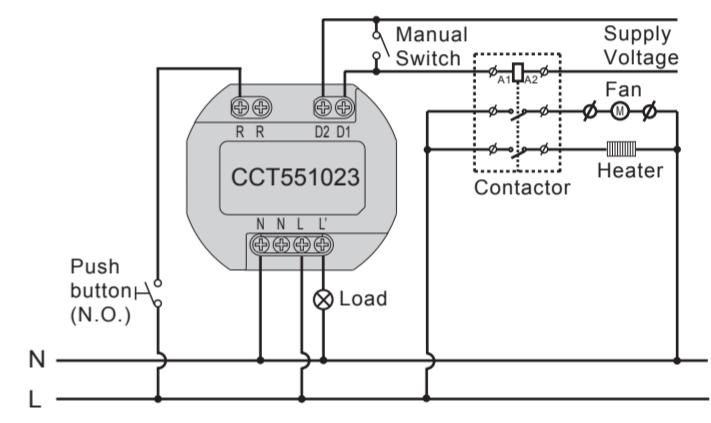
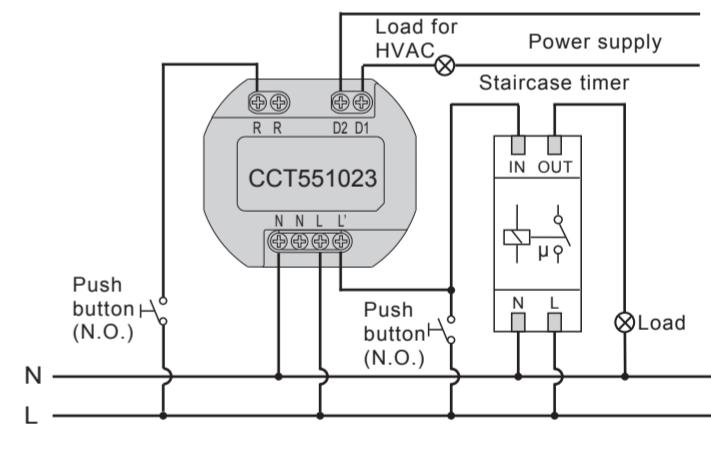
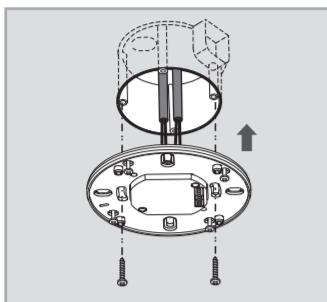
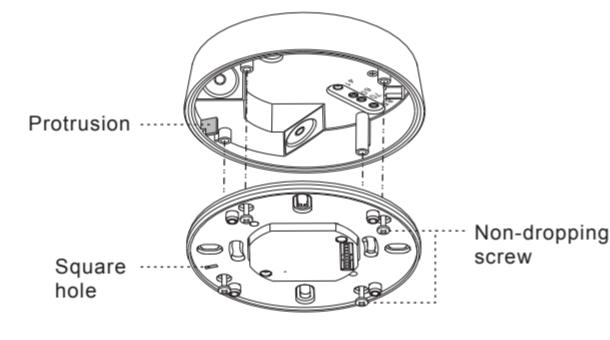

FIG.5
FIG.6
FIG.9
FIG.17
4.3.1 CCT551023 for standard application (See. FIG.5)
4.3.2 CCT551023 controls staircase timer switch (Time1 should be set to $\mu_{\text{S}} \text{L}$) (See. FIG.6)
4.4.1.3 Fix the power box into European standard junction box with 2pcs screws (See FIG.9).
4.4.2.3 Please refer to illustration of FIG.5 - FIG.6 for correct wiring and then screw the Power box captightly.
4.4.3.5 Refer to wiring diagrams for correct wiring connection (See FIG.5 - FIG.6). There is a square hole in the fixing plate, when you put the fixing plate into the junction box, please fit the fillister to the junction box's protrusion (See FIG.17), then fix the detector head on the power box following FIG.9 and assemble them with the attached 4pcs non-dropping screws.